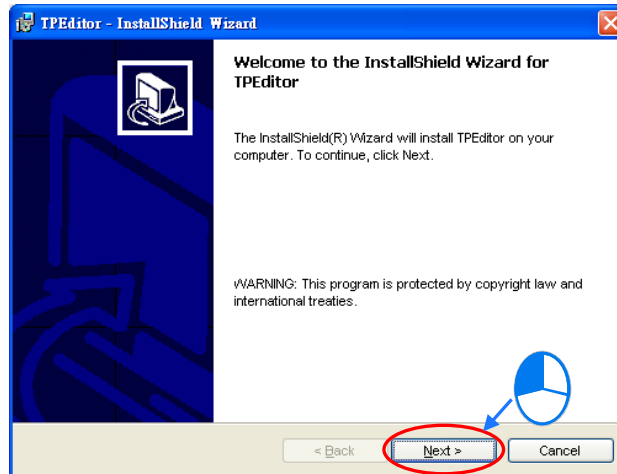

Figure 1-2 Process of installing TPEditor
- (4) After the **InstallShield Wizard** window appears, click **Next**, as shown in Figure 1-2.